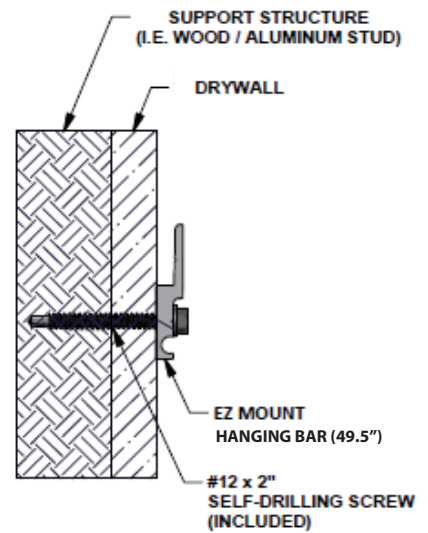

Figure 2: Wall Bar Mount
**NOTE: A minimum of (3) screws are recommended to safely secure the frame (see figure 2)**